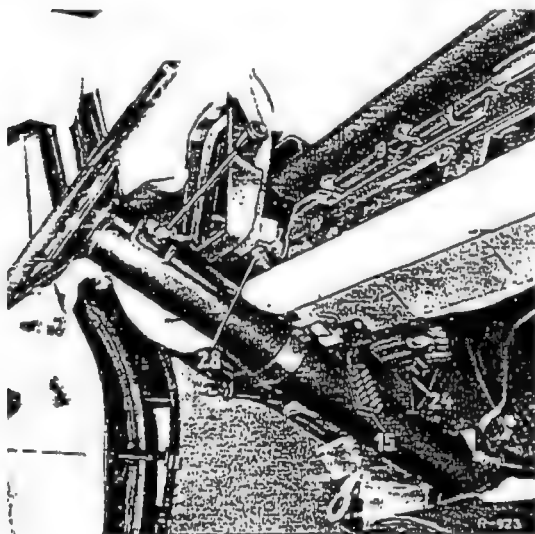

Fig. 54-11/2
3. From behind the instrument panel, unscrew by hand the oil pressure gage line and the fastening nut (20) (wing nut) from the instrument cluster (Fig. 54-11/1).
4. Unscrew the capillary tube (19) for the radiator thermometer from the left side of the engine. Remove the rubber grommet for the capillary tube and the choke control, and pull the capillary tube toward the rear through the front wall.
5. Pull out the instrument cluster together with the frame toward the rear far enough to allow the speedometer drive shaft (28) to be disconnected (Fig. 54-11/2).
6. Remove the instrument cluster and frame (23) carefully, taking care not to damage the capillary tube (19) of the radiator thermometer (Fig. 54-11/1).